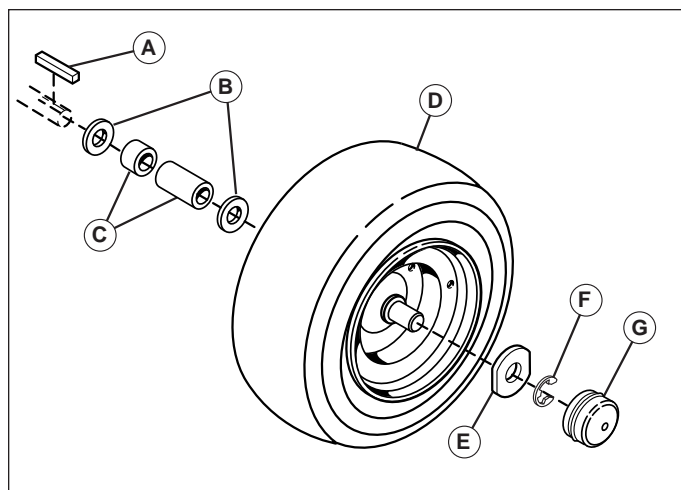

Figure 15. Axle Hardware
5. Reinstall the components in reverse order of disassembly and lower the unit. Be sure the key (A, Figure 15) is in place in the axle keyway.